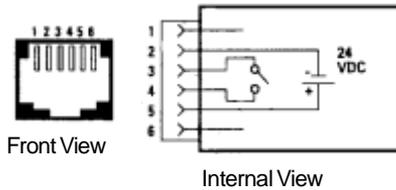

Fig. 6
If not, jump to Step 5. The contacts will close any time the MBS goes off-hook. Connect the contacts to auxiliary devices via the AUX EQPT jack on the DSI (see Fig. 6).
Step 4: Determine the line button number of the "make busy" feature (see Fig. 6). For example, if the "make busy" feature is located on line button 4, then press on the dial pad of the MBS.